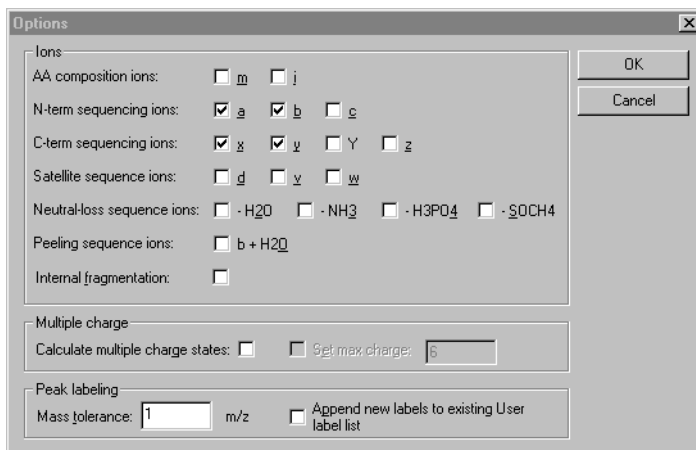

Figure 6-16 Ion Fragmentation Options Dialog Box
The Ion Fragmentation Options dialog box (Figure 6-16) is displayed.
- **Internal fragments table**—Lists possible internal sequences, if you enabled this option in the Options dialog box (see Figure 6-16 on page 6-27).